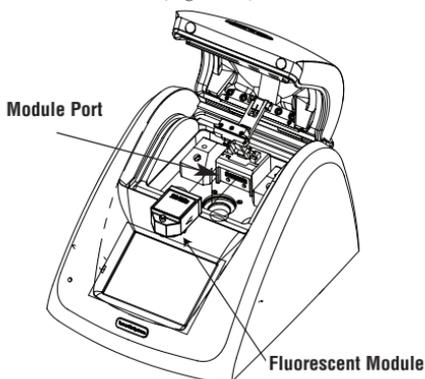

Figure 14. Aligning the Fluorescent Module with the module port.
2. Align the metal pins of the Fluorescent Module with the module port inside the luminometer (Figure 14).